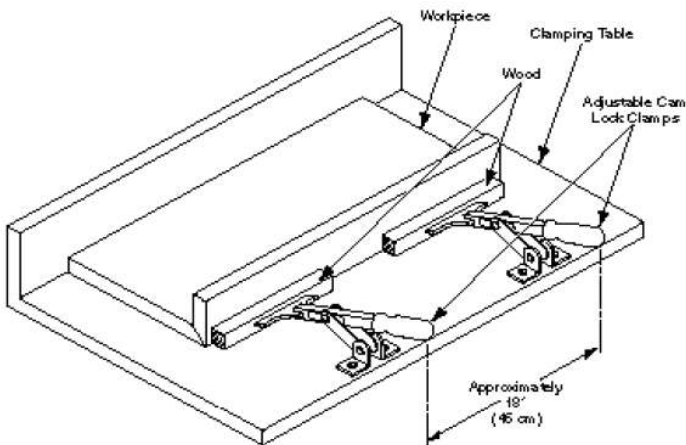

Figure O-4
- For production runs, use a clamping table Figure O-4.